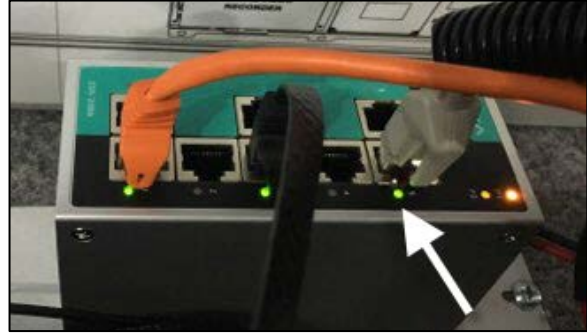

Figure 14
26. With the ignition at the "ON" position, check if the third green light pointed with an arrow in Figure 14, is flashing.